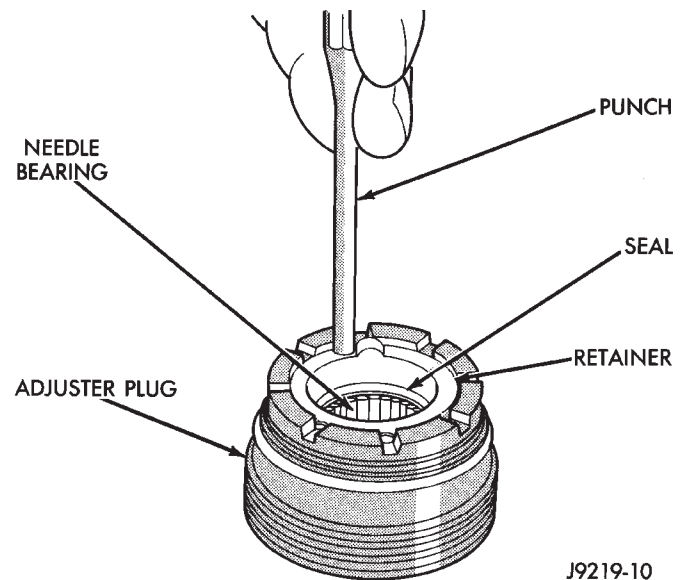

Fig. 23 Install Retainer
(1) Install needle bearing into adjuster plug with tool C-4177 and handle C-4171.
(2) Apply white petroleum grease on lip seal. Install lip seal into adjuster plug with tool C-4177 and handle C-4171.
(3) Apply white petroleum grease to dust seal cavity and install dust seal into adjuster plug with tool C-4177 and handle C-4171.
(4) Install retainer snap ring.
(5) Install O-ring seal to adjuster plug.
(6) Install large bearing race, thrust bearing, small bearing race and bearing spacer to adjuster plug.
(7) Install thrust washer bearing retainer to adjuster plug (Fig. 23).